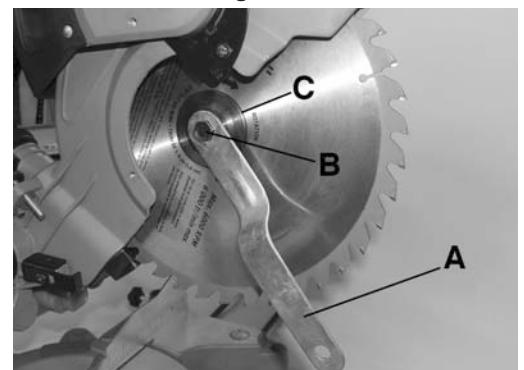

Figure 21
7. Use the blade wrench (A) Fig.21 supplied to remove the blade bolt (B), loosen in a clockwise direction as the blade bolt has a left hand thread.
8. Remove the outer blade flange (C) and the blade.